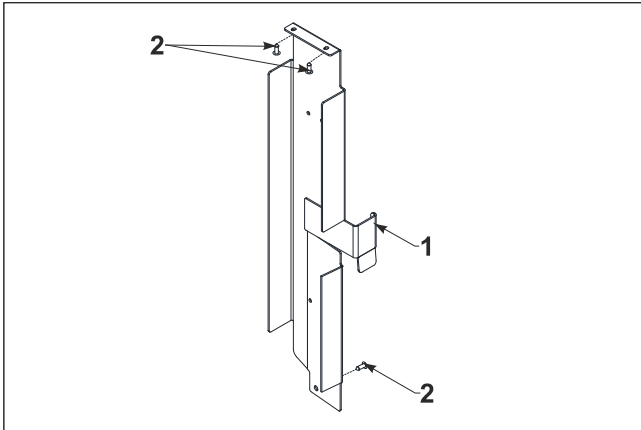

Figure 6-7. Cable tray replacement
Cable tray (1) see Fig. 6-7 allows cables, wires and connexions protection. This ensure also power track guiding.